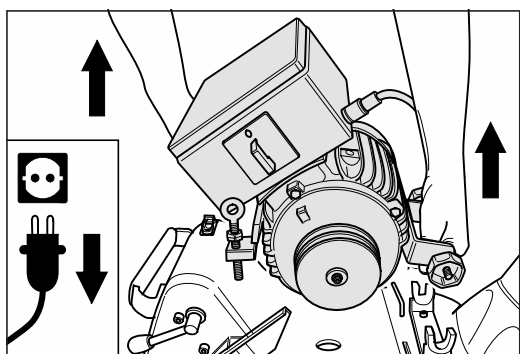

Fig. 34 Remove the motor from the machine housing. Similar to figure.
- 10 Remove the motor from the machine housing (fig. 34) and secure it during transport against slipping and damage!